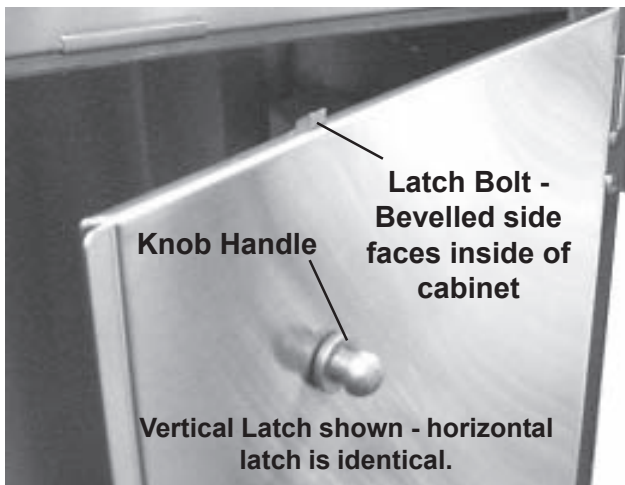

Figure 32. Knob Handle and Latch Bolt
1. With a pliers, unscrew the knob handle from the door (Figure 32). If not replacing the bolt or spring, proceed to *Step 7*.